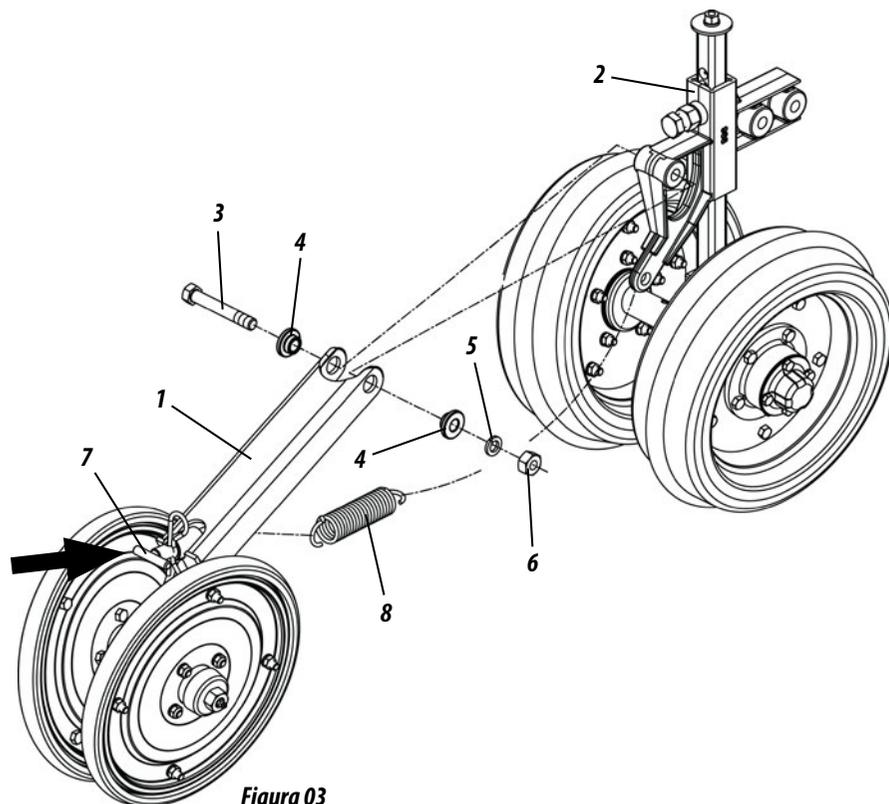

Figura 03
**MONTAGEM DAS RODAS COMPACTADORAS ( FIGURA 03 )**